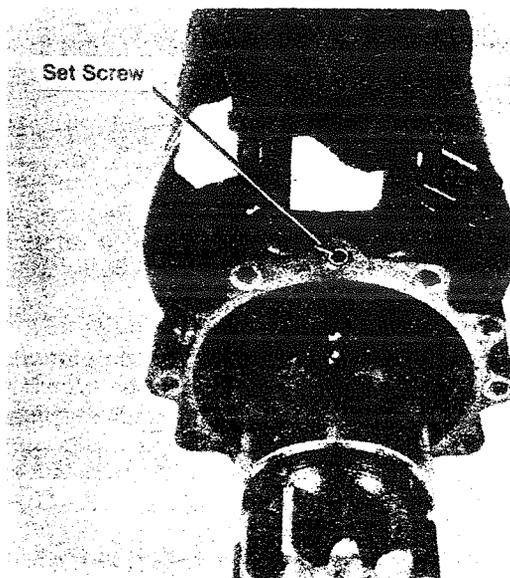

Figure 30
**NOTE:** The shift housings used on these motors have 12 tapped holes to allow the nose housing to be "indexed" (positioned) in a variety of positions. Only 6 screws are used to mount the nose housing, and when the top hole (figure 30) is not used, then a socket set screw with 1-2 drops of Loctite #2114 must be installed to keep out moisture and other contaminants. On MC, ME and MX motors, a button head screw is used.